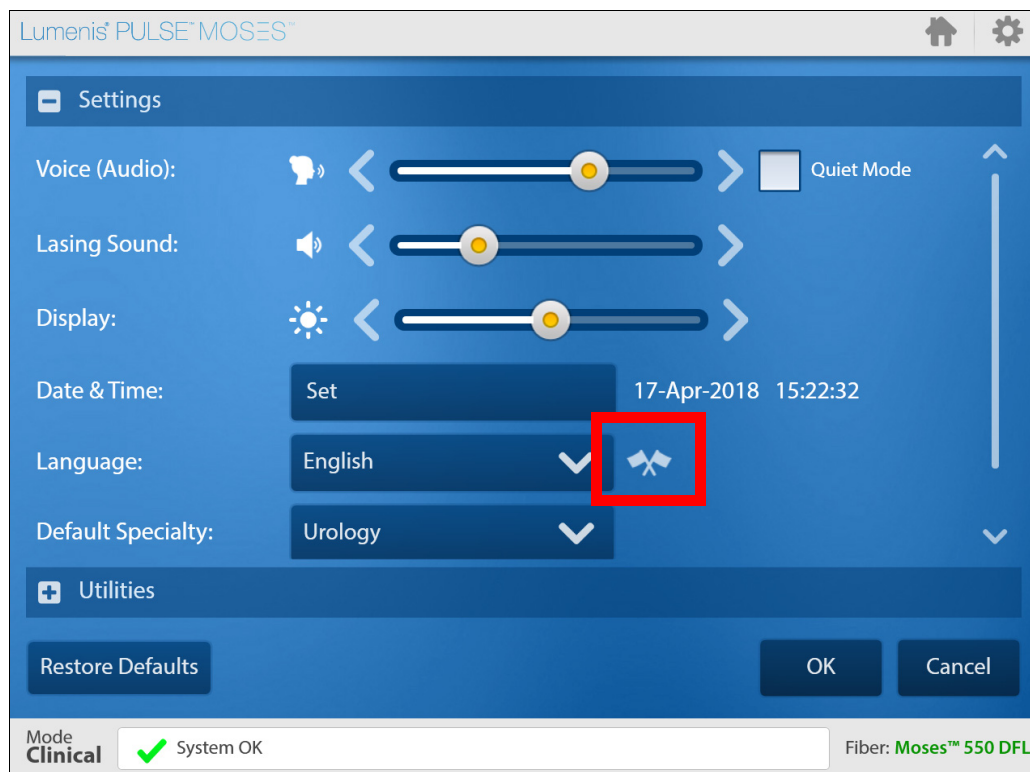

Figure 69: Settings & Utilities > Language Reset Flag
5. On the **Settings** screen press the **OK** button (see Figure 69).